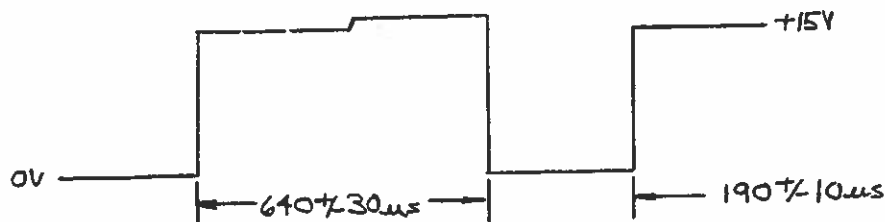

fig. 3
g) Check the waveform at pin 3 of U18 to fig. 3.